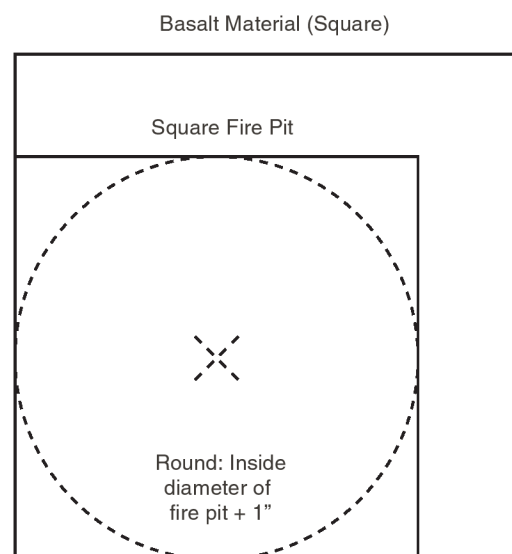

Figure 2
- 3) Transfer this supply line measurement to the Basalt material by drawing an “X.” See Fig. 2. The “X” should be no larger than the diameter of the supply line for a tight fit.